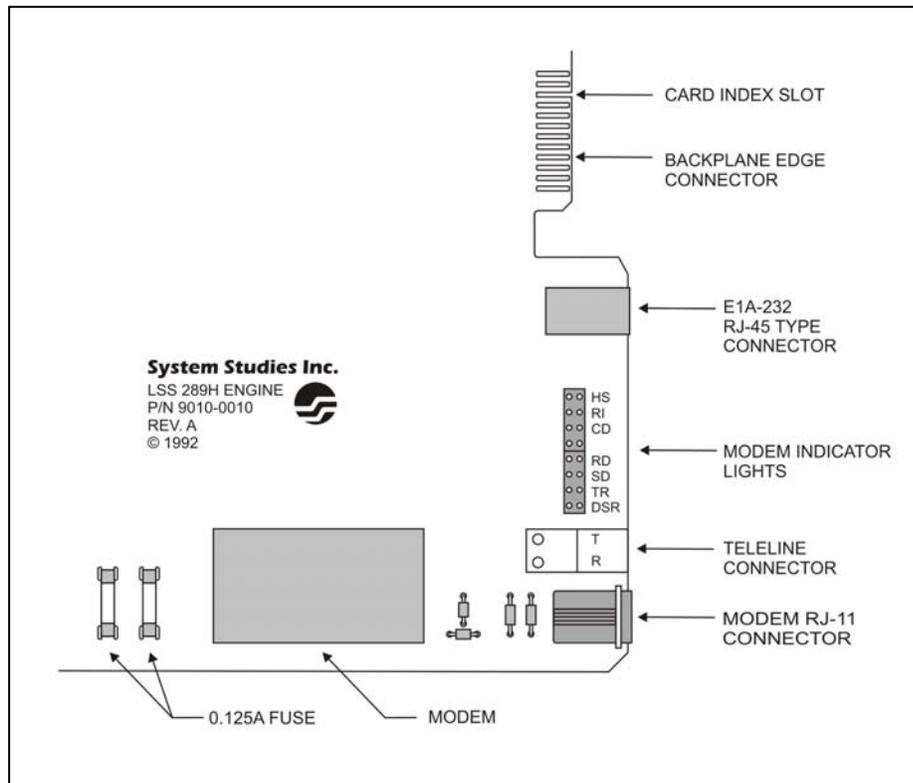

FIGURE A2-2: 289H CONTROLLER CARD MODEM LIGHTS
5. Are the LEDs for HS, TR, and DSR below the RJ-45 connector on the Controller Card on? (These LEDs, along with several others, are located near the back bottom edge of the original card, as shown in FIGURE A2-2. On the newer card, the modem LEDs are located closer to the front of the card, and a visual key, identifying each LED, is silkscreened on the card's front edge.)